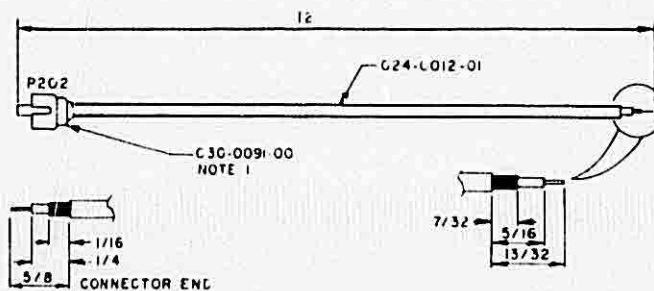

FIGURE 6-11d I. F. CABLE
- e) Compensate the scope probe and connect it to the output of the Video Amplifier at TP401 (E-4). Check to see that pulses P1, P2 and P3 are present. Vary the r. f. to see that the pulses track with the input level. Alignment of the I. F. is outlined in 6.4.4. If I. F. cables is replaced see Figure 6-11d for construction procedures.